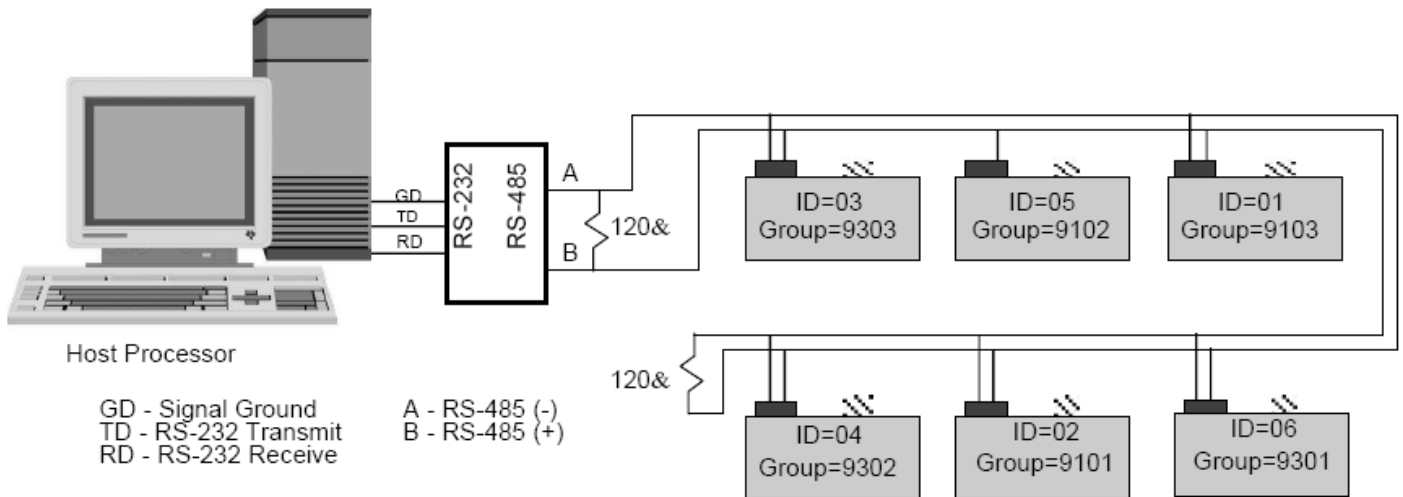

Figure 4.13—HPB RS-485 Multidrop Network
An HPB multidrop network connection of six units is shown in Figure 4.13. In this network, the device IDs are not in order from one end of the network to the other. Looking at all the units on the bus, the device IDs are sequential beginning with ID=01 and without duplication. This is an important setup condition if global commands (*99) are desired.
Assign Group Numbers: Once the device IDs are set the group IDs can be assigned. Each unit in the same group must have a sequential sub-address - beginning with 01. The sub-address tells each unit what order it should respond in a group addressed command. To set the group (91) and sub-address (01) for device ID=02, send the following commands: ***02WE**, ***02ID=9101**, ***02WE**, ***02SP=ALL**. Now when a command is sent to group 91, device ID=02 will be the first one to reply. In Figure 4.13, there are two address groups, 91 and 93; each have 3 HPB units assigned.
When an RS-485 multidrop network has all device IDs properly assigned (Figure 4.13), then global addressed commands can seek replies from all units without conflict. The **TO=N** and **TO=P** commands instruct the units how to reply in this situation. When **TO=N** command is set, each HPB will respond in sequence beginning with ID=01, one right after another. It is important that during this response sequence the host processor, or user, not transmit on the bus until the last unit has finished its message. A carriage return (<cr>) sent during the response sequence will cause the next unit ID to send its response even though the previous unit ID is still transmitting.